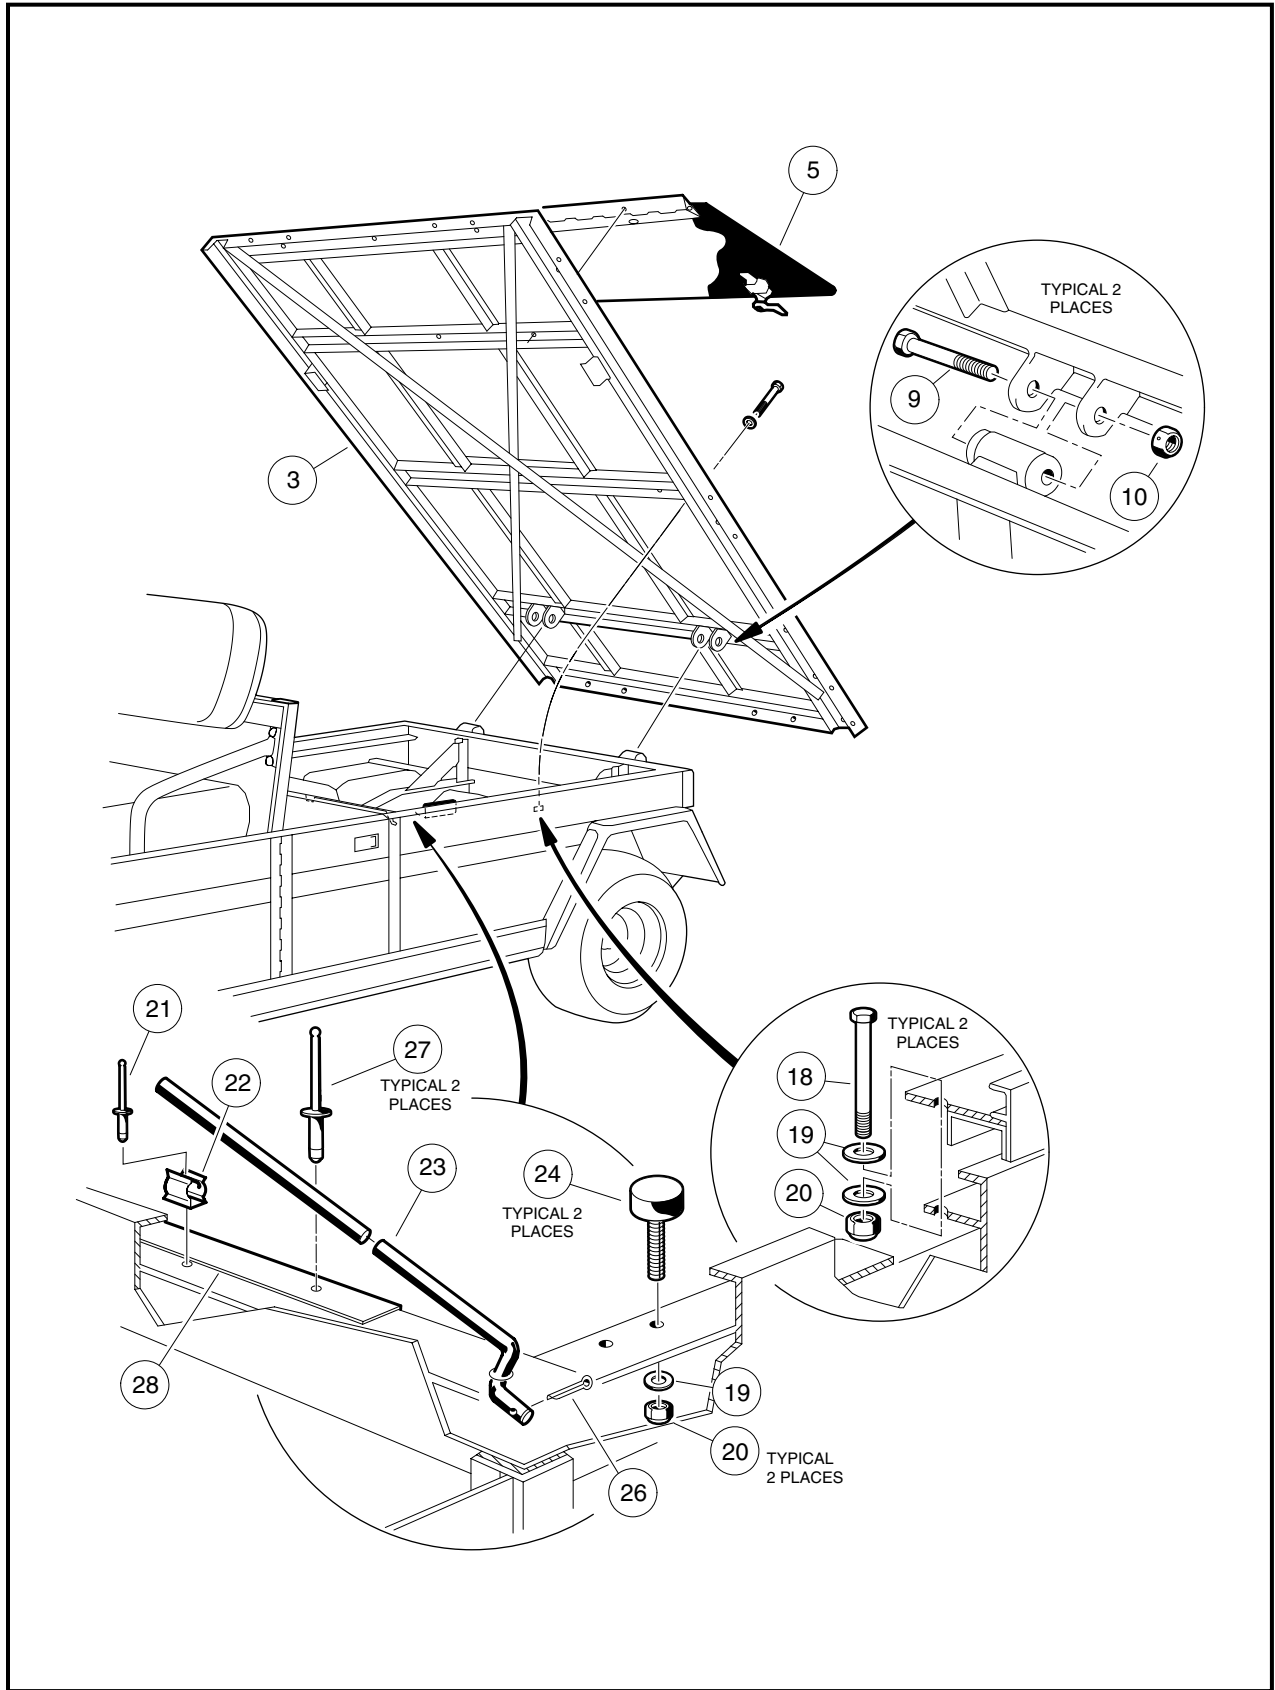

Figure 4-3 Flat Bed – Turf 6 and Carryall 6
1. Open access door in bed (5) and remove two lock nuts (20), four flat washers (19), and two 1/4 x 4 bolts (18). Close and latch access door (**Figure 4-3, Page 4-9**).
2. Remove two lock nuts (10) from left and right flat bed hinge assemblies.
3. Remove two 3/8 x 3 -3/8 bolts (9). Lift bed from vehicle.
1. Place bed on vehicle with bed front edge 1 inch (2.5 cm) from seat back support panel (28) and open access door (5) (**Figure 4-3, Page 4-9**).
2. Raise rear edge of bed 6 inches from vehicle frame and position bed so the left and right hand bed supports are resting on the support bumpers (24).
4. Start the bolts (9) into left and right hinge assemblies. It may be necessary to use an alignment tool to align holes in hinge bracket with steel bushing in hinge assembly.
5. Install a nylon lock nut (10) on each bolt and tighten to 14 ft-lb (18.9 N·m).
6. Install 1/4 x 4 bolts (18), flat washers (19), and lock nuts (20) through the bed frame and vehicle frame on both sides of vehicle. Tighten to 75 in-lb (8 N·m) (**Figure 4-3, Page 4-9**).